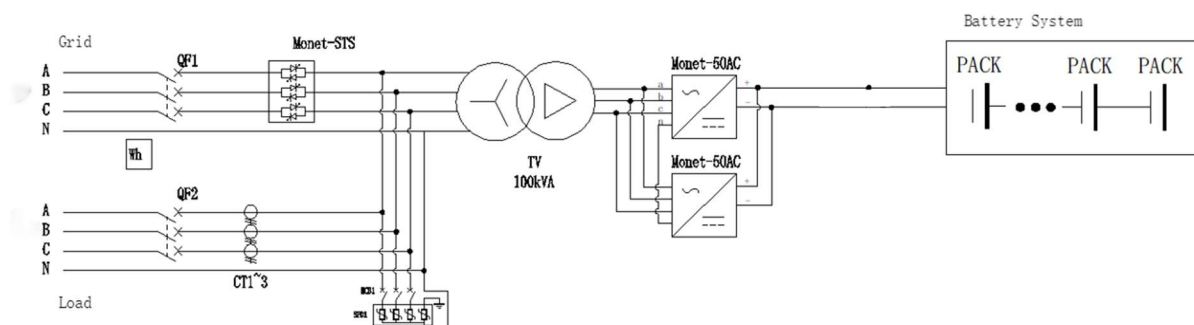

Figure 2.1 Electrical primary diagram
**Note:** Figure 2.1 for the system program with parallel off-grid, with isolation transformer, with photovoltaic input, different projects with different configurations, the line is slightly different, the actual shipping attached drawings shall prevail.